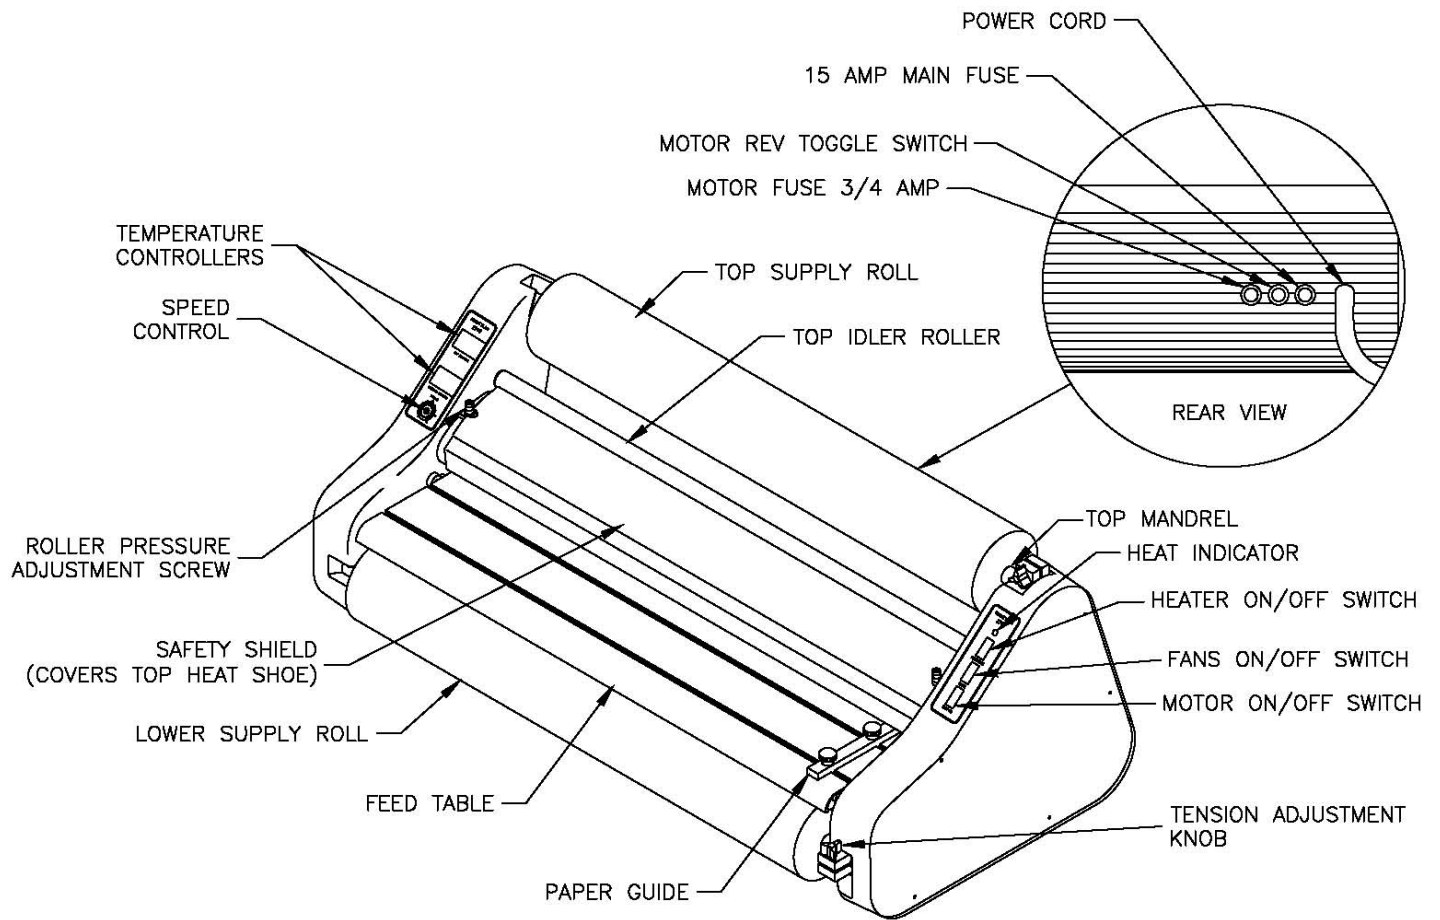

Figure 1
Figure 1 below shows the location of the major components and controls of the MightyLam 2700. You should become familiar with these before operating the laminator.
3. Locate the knob on the right side of the top supply mandrel. See Figure 1. Turn the knob to adjust the tension (clockwise to increase, counter clockwise to decrease) until the film passes over the top heat shoe without wrinkles and the web between the laminating and pull rollers is tight. *Note: This adjustment requires only a few degrees of turn. If the knob is turned too far, you may stall the drive motor.*